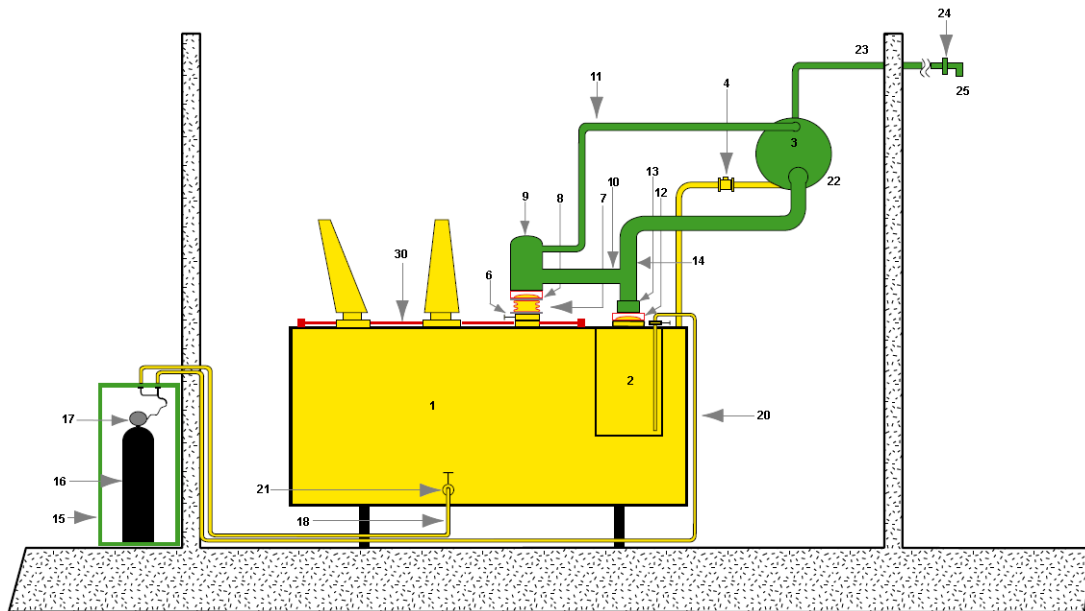

Figure 2: TRANSFORMER PROTECTOR, TPA type
- **TPA type**, Figure 2, is suitable for transformers from 0.1 MVA up to 1,000 MVA and above, located either indoors or outdoors. In this type, the transformer and OLTC Depressurization Sets (items 6-9 and 12-13) will allow the depressurization in case of an internal fault. The depressurized oil and gas mixture is routed to an Oil-Gas Separation Tank (item 22). The gases are expelled through the Explosive Gas Evacuation Pipe (item 23), outside the building or to a remote area where gases can burn safely. An Air Isolation Shutter (item 24) is installed at the end of the Explosive Gas Evacuation Pipe (item 23) to avoid air from entering into the Oil-Gas Separation Tank (item 22) or the transformer tank.